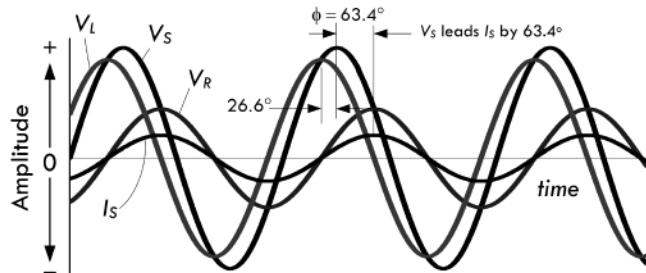

FIGURE 2.167
*Example 3:* The series RL circuit in Fig. 2.167 is driven by a 12-VAC (RMS), 60-Hz source.  $L = 265 \text{ mH}$ ,  $R = 50 \Omega$ . Find  $I_S$ ,  $I_R$ ,  $I_L$ ,  $V_R$ , and  $V_L$  and the apparent power, real power, reactive power, and power factor.
In reactive circuits, circulation of energy accounts for seemingly odd phenomena. In our example in Fig. 2.167, it appears that Kirchhoff's law doesn't add up, since the arithmetical sum of the resistor and inductor voltages is:
In light of our RL series circuit in Fig. 2.167, we find the apparent power to be:
In our series RL circuit in Fig. 2.167, we find the real power to be:
Considering the RL series circuit in Fig. 2.167, the reactive power is:
You may be saying, great, we can now add up the real power and reactive power, and this will give us the apparent power. Let's try it out for our RL circuit in Fig. 2.167:
In the example in Fig. 2.167:
where  $\phi$  is the phase angle (between voltage and current). In the example in Fig. 2.167, the phase angle is  $-63.4^\circ$ , so:
The final calculation of the power factor in the example in Fig. 2.167 yields the value of 0.45 lagging.
Using the example in Fig. 2.167: